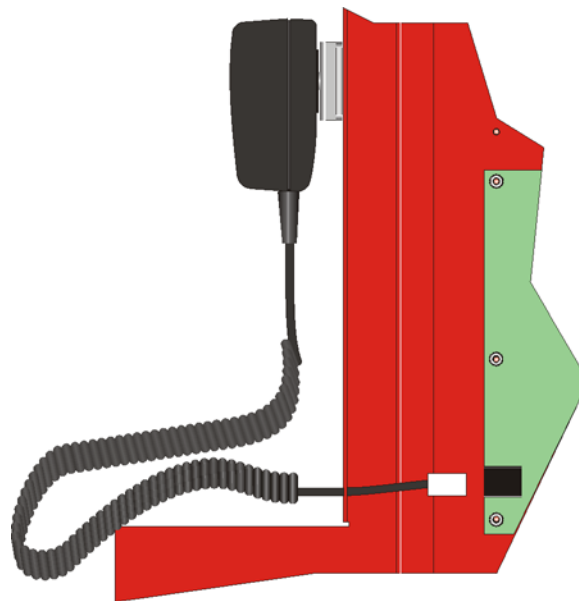

Figure 3-44 Microphone Cord Inserted Through Dead Front Panel Hole
2. Insert Microphone cord through hole at the bottom of the dead front panel. See Figure 3-44.